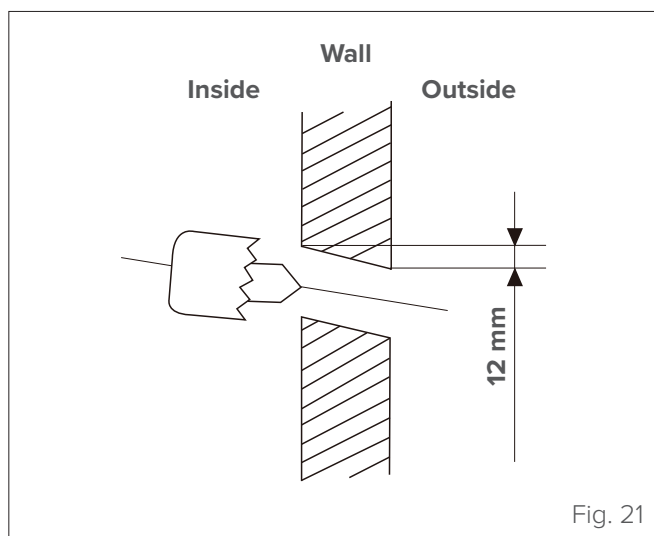

Fig. 21
- 1 Determine hole position in the wall according to the position of the outdoor unit. The hole in the wall should have a minimum diameter of 65 mm and a slight downward slope to facilitate drainage (see "Fig. 21").